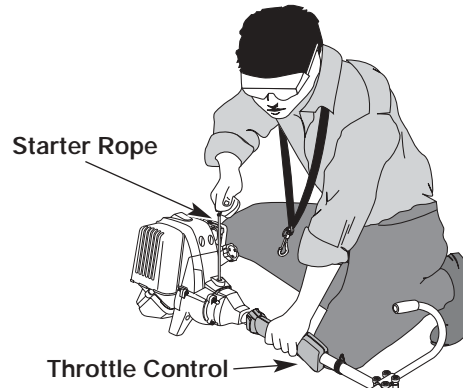

Figure 22
WARNING: Avoid accidental starting. Make sure you are in the starting position when pulling the starter rope. See Figure 22. To avoid serious injury, the operator and unit must be in a stable position while starting.
5. With the unit in the starting position, pull the starter rope briskly until the engine starts. See Figure 22.
6. When the engine starts, move the choke lever to the **RUN (C)** position, and run at full throttle for 30 seconds.
1. Release your hand from the throttle control. See Figure 22. Allow the engine to cool down by idling.